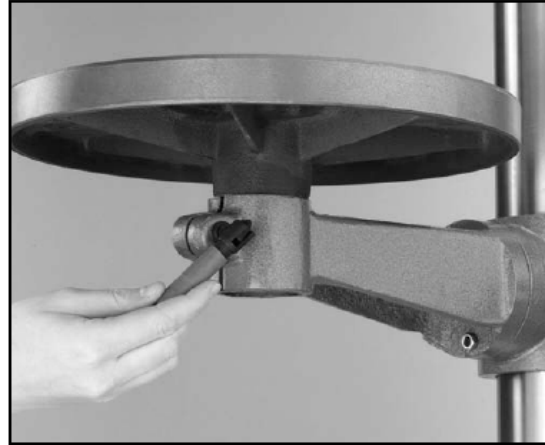

Figure 17
1. Loosen the lock handle located under the table as shown in **Figure 17**. Rotate the table the desired amount.